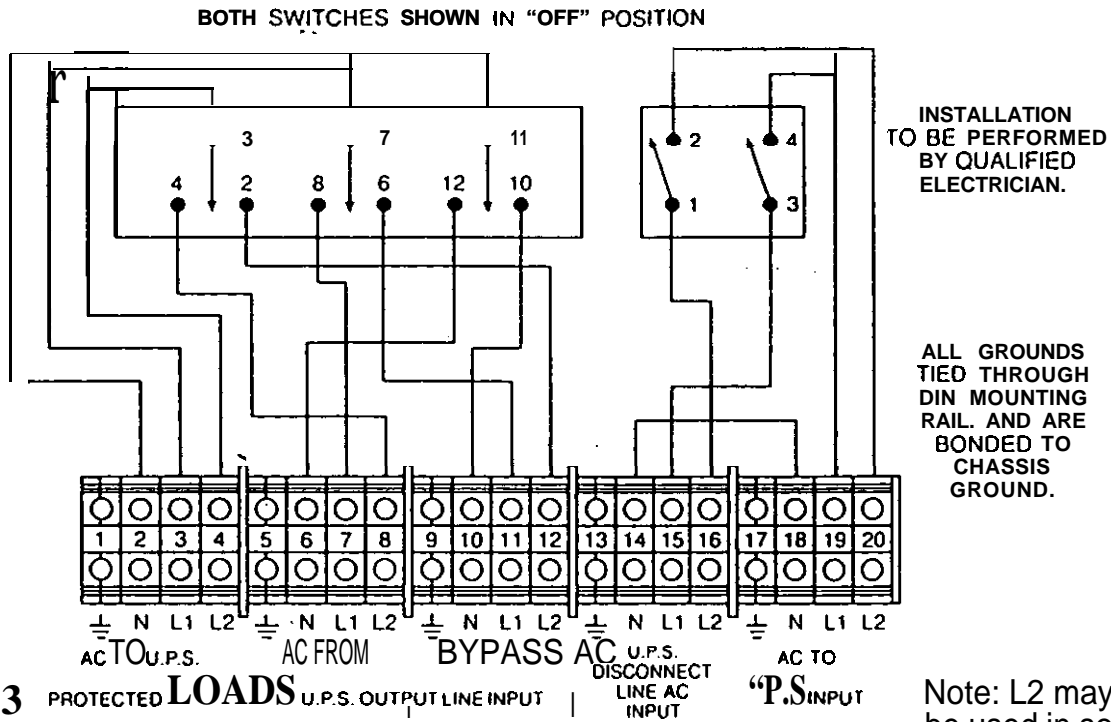

Figure 3
2. Insert the wire and tighten all connections securely to the appropriate terminal on the DIN rail. There is a label on the back of the lower cover of the switch. The label is also shown in Figure 3 on page 5.